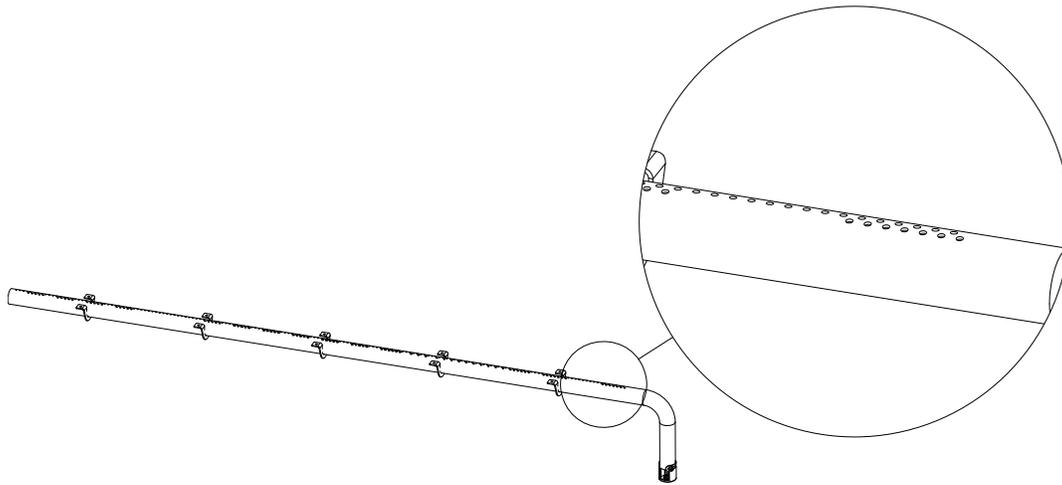

Figure 11.2 - Burner Ports
- Inspect and ensure the lighting of the main burner occurs within (4) seconds of the main gas valve opening. Check for faulty or incorrect wiring and correct or replace as necessary. Inspect primary air openings (burner ports) for blockage, especially near the pilot. Burner ports in burner tube are shown in Figure 11.2.